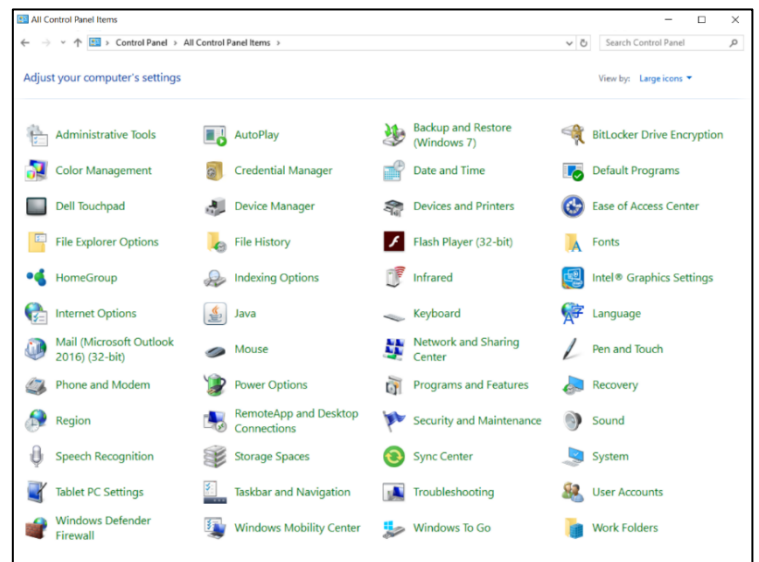

Figure 1
1. Open the Control Panel from the Windows Start button. The screen should look like Figure 1.